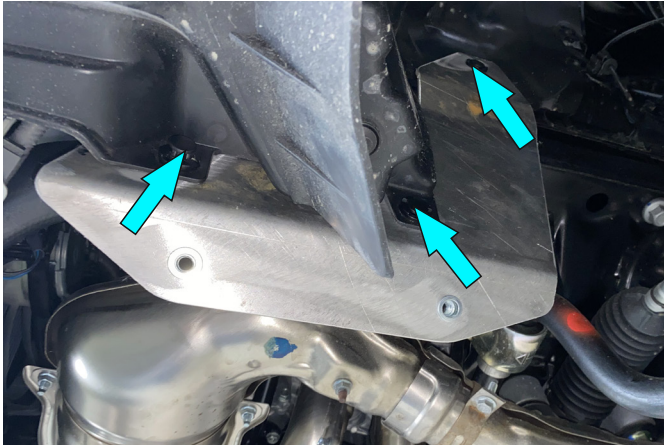

Fig. 1
1. Install left bracket (item 3), fix using OE plastic plugs (Fig.1).